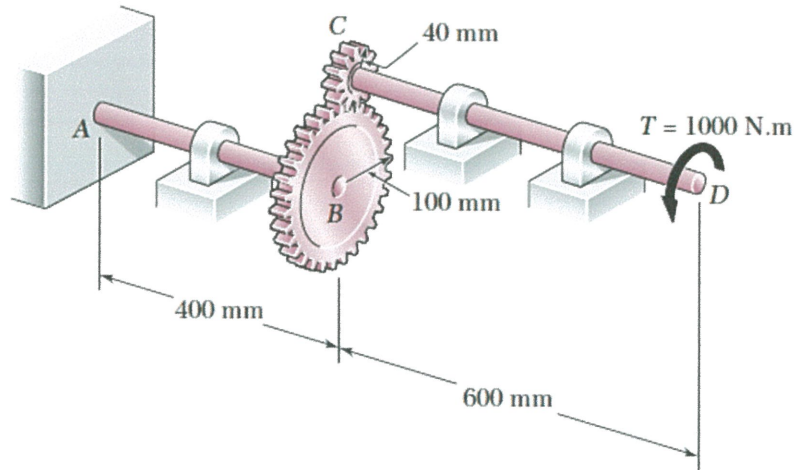

Figure Q4
- Q4.** The design of the gear and shaft system as shown in **Figure Q4** requires that steel shafts of the same diameter be used for both AB and CD . It is further required that $\tau_{\text{max}} \leq 60 \text{ MPa}$ and that the angle θ_D through which end D of shaft CD rotates not exceed 1.5° . Knowing that $G = 77 \text{ GPa}$, determine the required diameter of the shafts.